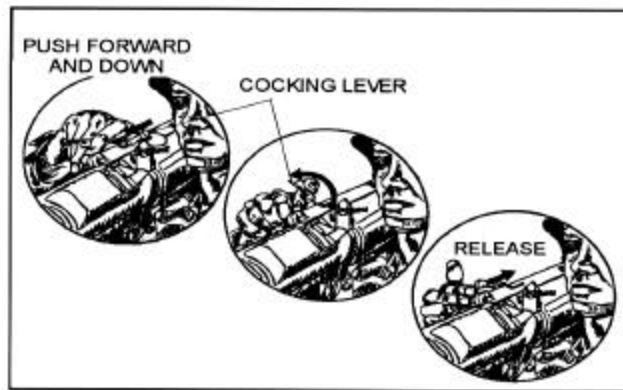

Figure 4-6. Cocking the launcher
f. Cock the launcher by unfolding the cocking lever with the right hand. Place the thumb of the right hand under the cocking lever. Grip the front of the firing mechanism for support. Push the cocking lever forward and down to the right. Let the cocking lever slide back (Figure 4-6).